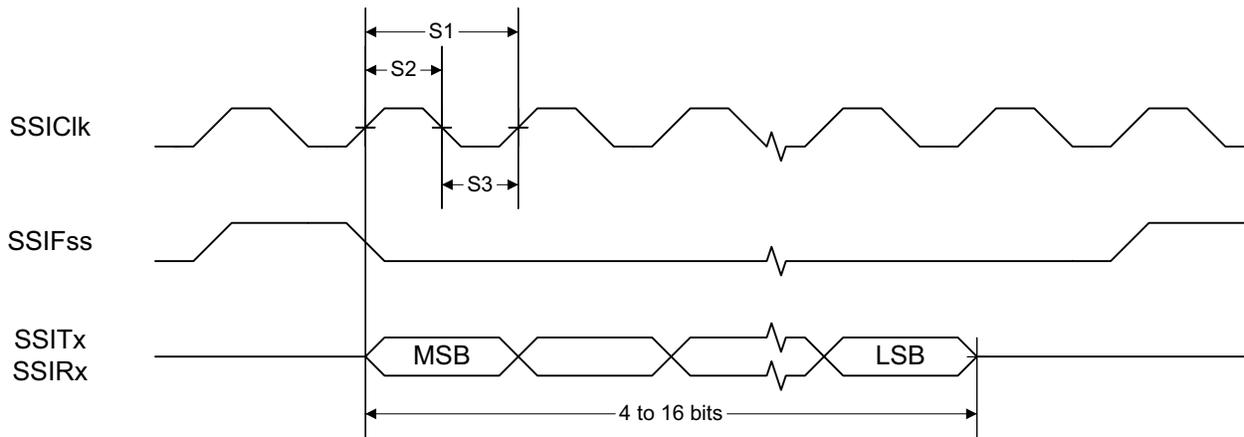
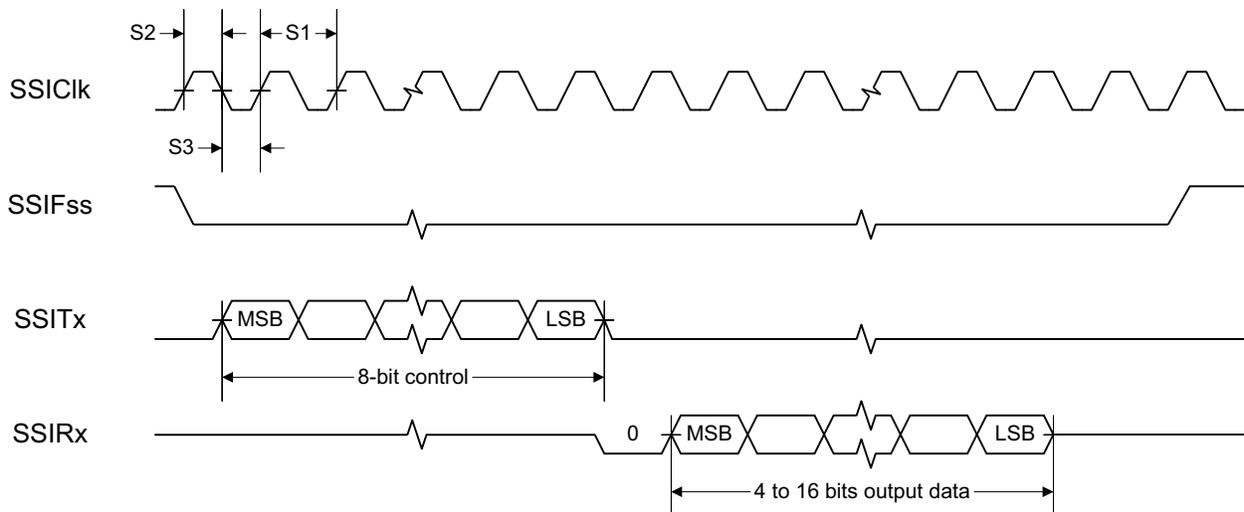
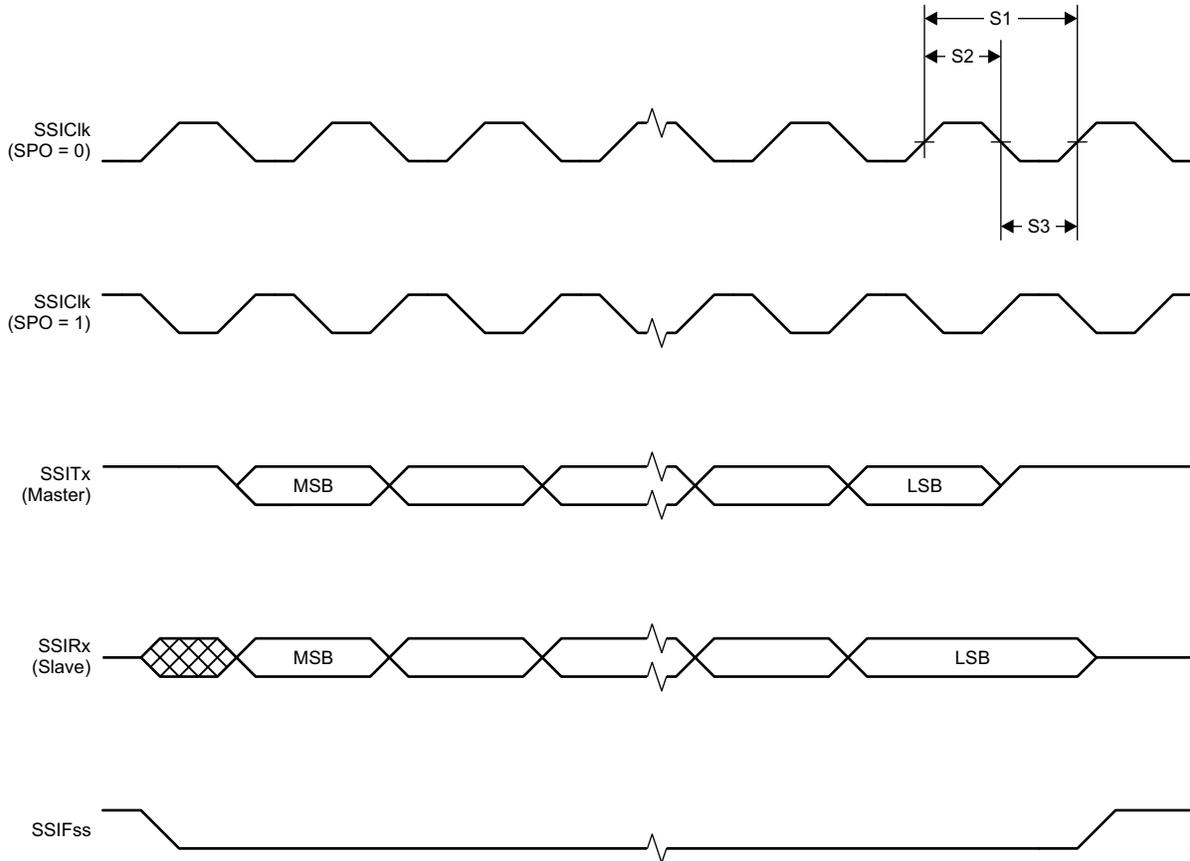

Figure 8-1. SSI Timing for TI Frame Format (FRF = 01), Single Transfer Timing Measurement
Figure 8-2. SSI Timing for MICROWIRE Frame Format (FRF = 10), Single Transfer
Figure 8-3. SSI Timing for SPI Frame Format (FRF = 00), With SPH = 1
- (1) Refer to SSI timing diagrams Figure 8-1, Figure 8-2, and Figure 8-3
- (2) When using the TI-provided Power driver, the SSI system clock is always 48 MHz.